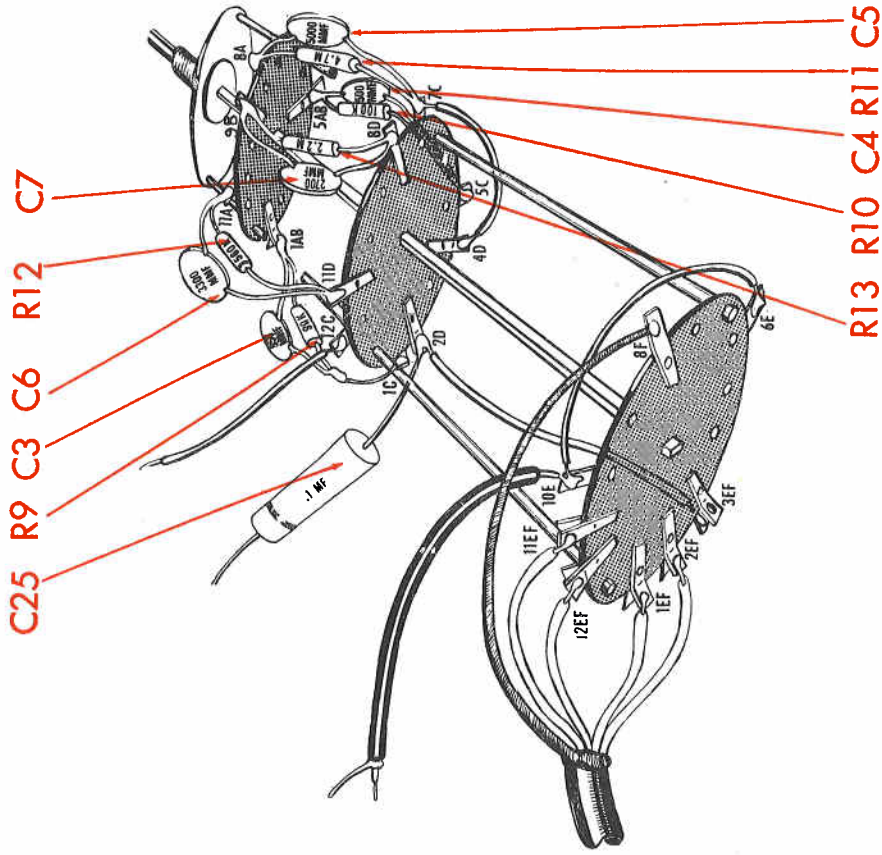

Fig. 2
1. (✓) Fig. 2. Connect an 850 mmf capacitor, C3, and a 90KΩ (white, black, orange, gold) 5% resistor, R9, from 1B (S) to 1C (S).
2. (✓) Fig. 2. Connect a 500 mmf capacitor, C4, and a 100KΩ (brown, black, yellow, gold) 5% resistor, R10, from 5C (S) to 5B (S).
3. (✓) Fig. 2. Connect a 5000 mmf 10% capacitor, C5, and a 4.7 meg (yellow, violet, green, gold) 5% resistor, R11, from 7C (C) to 8A (S).
4. (✓) Fig. 2. Connect a 2700 mmf capacitor, C7, and a 2.2 meg (red, red, green, gold) 5% resistor, R13, from 8D (S) to 9B (S).
5. (✓) Fig. 2. Connect a 3300 mmf capacitor, C6, and a 560KΩ (green, blue, yellow, gold) 5% resistor, R12, from 11D (S) to 11A (S).
6. (✓) Fig. 2. Connect a grey lead from 4D (S) to 7C (S).
7. (✓) Fig. 2. Connect a 2" green lead to 12C (S). Leave the other end free.
8. (✓) Fig. 2. Connect one end of a .1 mfd (brown, black, yellow, black, yellow) 20% capacitor, C25, to 2D (C). This lead should be only 1" long. Cut the other end to 1 1/2" leaving it free.
9. (✓) Fig. 2. Connect a 1 1/4" bare lead from 2D (S) to 3E (S).
10. (✓) Fig. 2. Connect a 2" grey lead from 10E (C) to 6E (S).
11. (✓) Fig. 2. Cut a 5 1/2" length of the 4 conductor shielded cable. On both ends, the outer insulation is stripped back 1". The spiral shield is unwound and each lead insulation stripped back 3/8". Connect the inner leads on one end of the cable, so that one lead connects to each of the following four switch terminals:
- (✓) shield to 8F (S)
- (✓) orange to 1F (S)
- ( ) yellow to 2F (S)
- (✓) brown to 11F (S)
- (✓) red to 12F (S)
12. (✓) Fig. 2. Cut a 6" length of shielded cable. On one end, strip back the outer insulation 3/4", unwrap and cut the spiral shield and strip back the inner insulation 3/8". (Call this end "A".) On the other end (end "B") the outer insulation is stripped back 3/4", the spiral shield is unwrapped and twisted and the inner insulation stripped back 3/8". Connect the inner lead of end "A" to 10E (S).
17. (✓) Fig. 2. Connect a 33KΩ (orange, orange, orange, silver) resistor, R19 from R18-3 (S) to ground lug "D" (S) on tube socket XV3. Cut both leads to 3/4". X